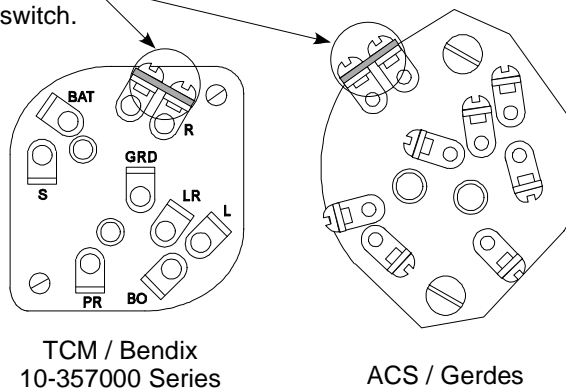

Figure 2
- A. In most applications, the right magneto can be grounded during start by the ignition switch. If the wiring connections on the back of the ignition switch are similar to those shown in Figure 2, a jumper can be added to the two terminals shown to provide a ground path during start.